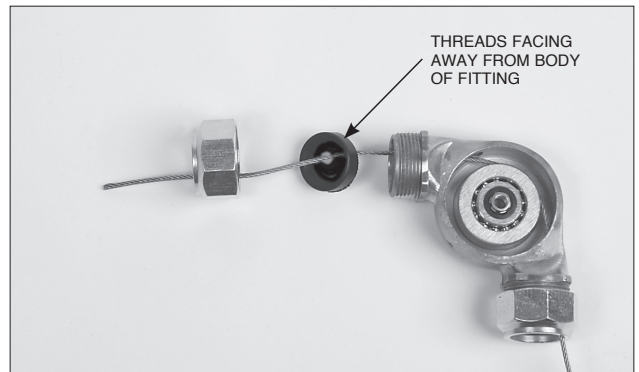

FIGURE 5-63
2. Thread the stainless steel wire rope through the EMT conduit connector and flexible conduit insert. Make certain that the thread in flexible conduit insert is facing out toward end of connector. See Figure 5-63.